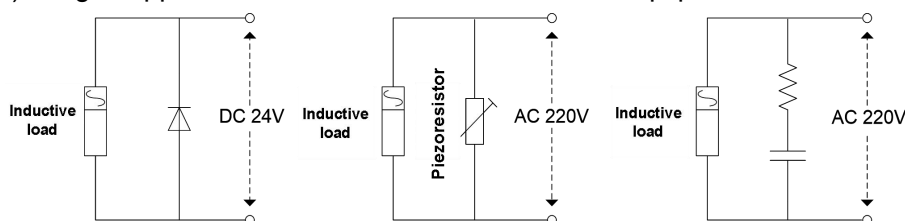

Figure 3-10 Application example of inductive load surge suppressor
- When the inverter is connected to the inductive load equipment (e.g. electromagnetic contactor, relay and solenoid valve), surge suppressor must be installed on the load equipment coil, as showed in Figure 3-10.